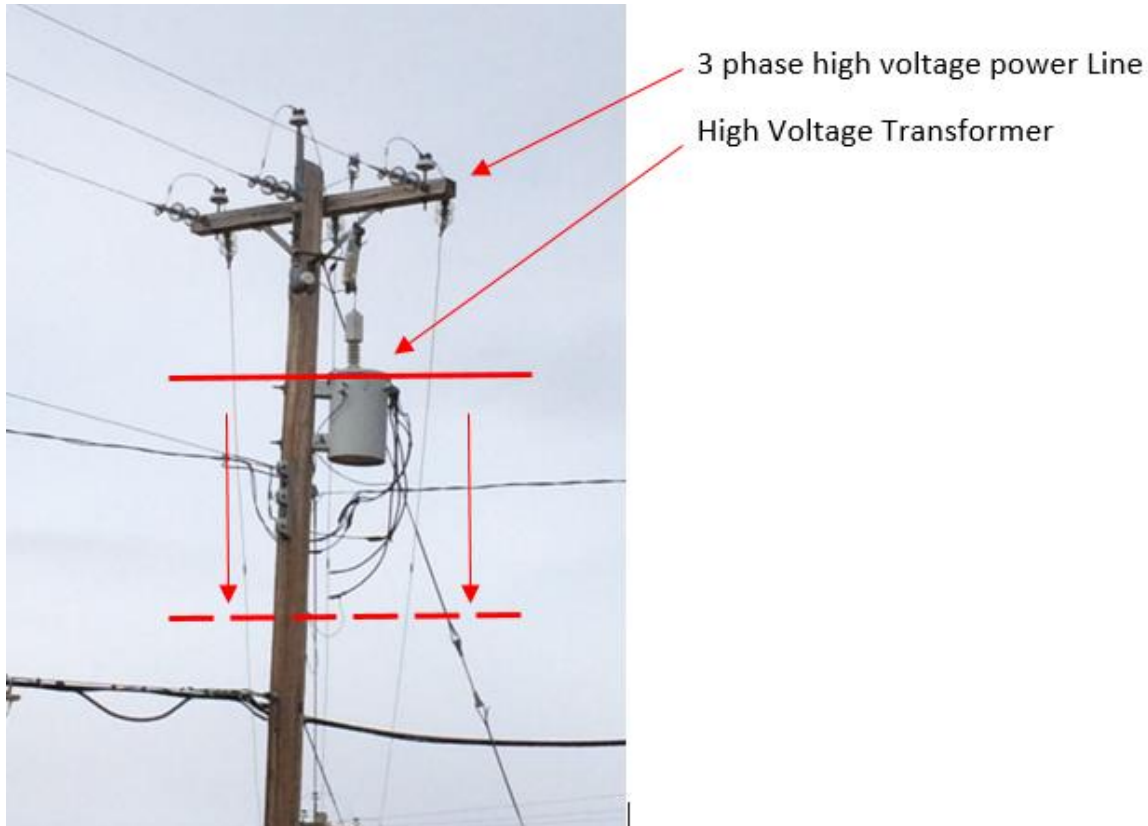

Figure 11 - Three Phase Power Line with Single Phase Transformer
- 7.3.5. Figure 11 is an example of a three phase power line with a single phase high voltage transformer attached to it. The top of the transformer is energized at the same voltage as the conductor at the top of the pole. The 3 meter limit of approach distance is measured down from the top of the transformer as indicated above.
- In Figure 11 the telecommunication cables are close to the 3 meter limit indicated by the dotted line. **The telecommunication worker should identify where this imaginary line is and be careful not cross to it at any time.**